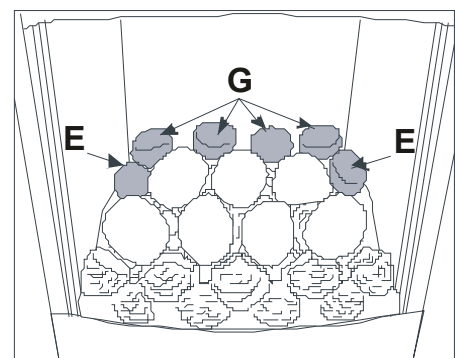

Figure 31
5. Place the **E & G** pebbles on the sides and around the back as shown in **Figure 31**.